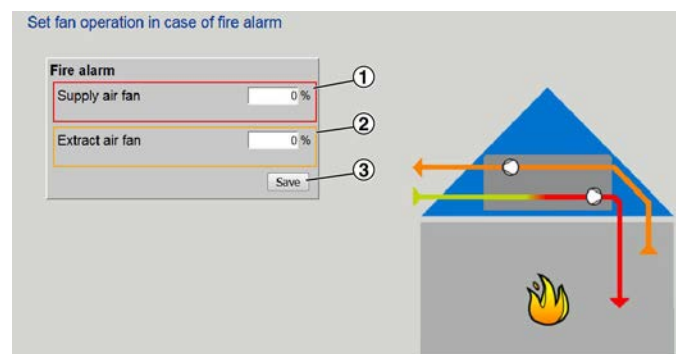

Fig. 50: Setting the fans for the event of a fire
6. ▶ Enter a value for the supply air fan (Fig. 50/1).
7. ▶ Enter a value for the extract air fan (Fig. 50/2).
8. ▶ Click on 'Save' (Fig. 50/3).